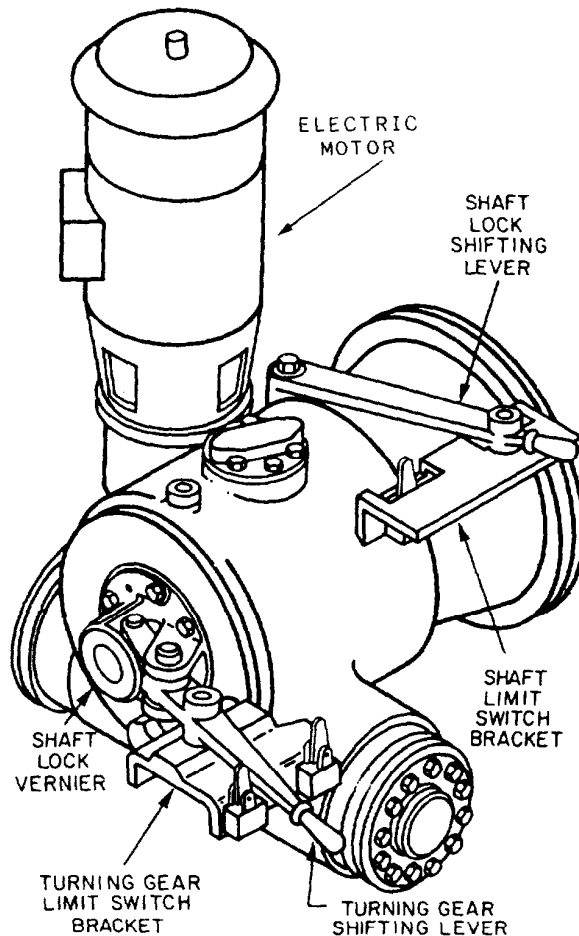

Figure 8-10.—Turning gear assembly (CC class ships).
**CG CLASS SHIPS.**—An electric-motor-driven, double-reduction turning gear assembly is mounted on each MRG (fig. 8-10). When engaged, the turning gear drives through the upper outboard second-reduction pinion. The assembly consists of a 7.5-hp-driven motor and a double-reduction, spiroid/worm-type speed reducer. The turning gear assembly is attached to the MRG through the second-reduction housing flange and the shaft lock ring (stop gear). A flexible coupling attaches the drive motor shaft to the spiroid pinion in the first-reduction housing. A coupling guard covers the flexible coupling. All bearings in the turning gear assembly are antifriction bearings. Lubrication is accomplished by a combination oil immersion and spray system supplied from the MRG lube oil system at a rate of 3 gpm. The splined gears are spray-lubricated; the worm gears are lubricated by gear meshes and bearings dipping into a self-contained reservoir.